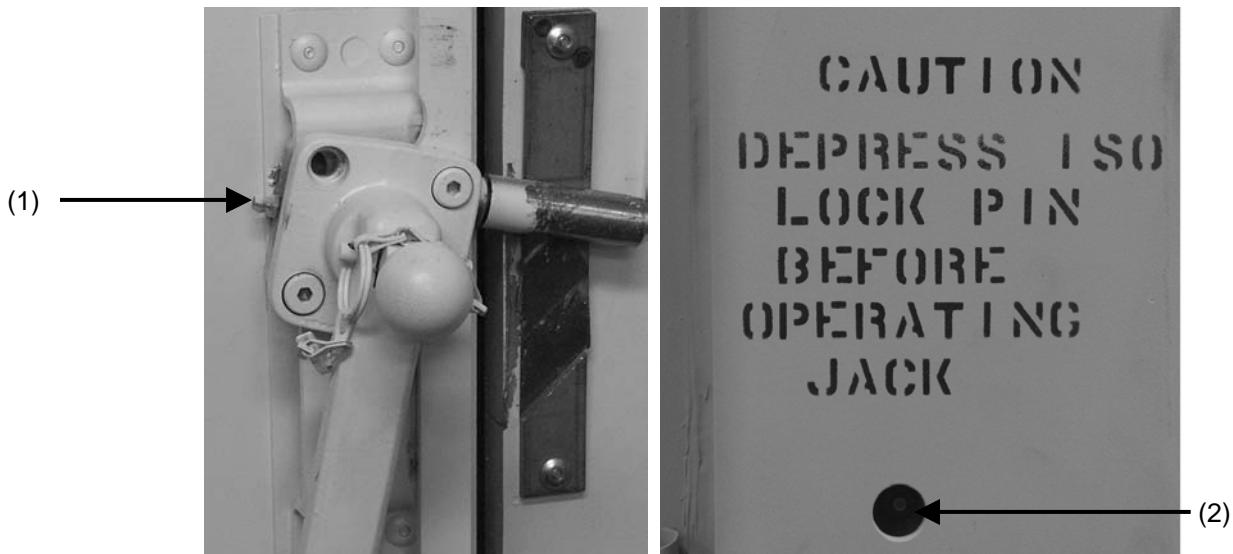

Figure 4-2. Lube points for container.
There are five lube points on container: One on door handle (1), one on each of four lift jack assemblies beneath Caution note (2), (Fig. 4-2).